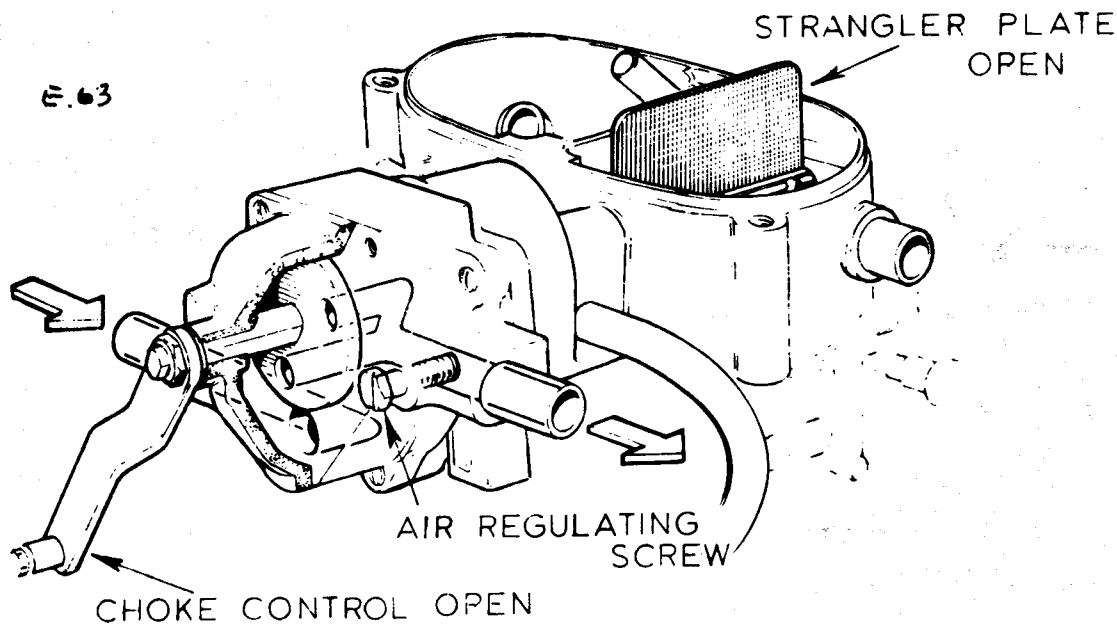

Fig. 16 Slow Running System
2. Provision for idling with strict control of emissions (Fig. 16)